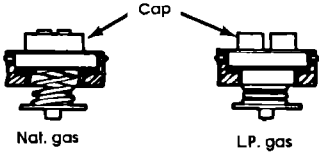

Figure 4
2. Remove the cap with screwdriver slot; turn it over; then replace the cap. This cap will then have the marking "LPG10." Do not disturb or remove the spring beneath this cap. See Figure 4.